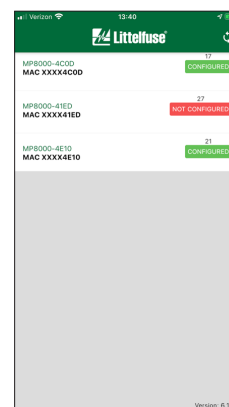

Figure 1
- d. Select desired MP8000 from available devices in the Littelfuse app. (See Figure 1)